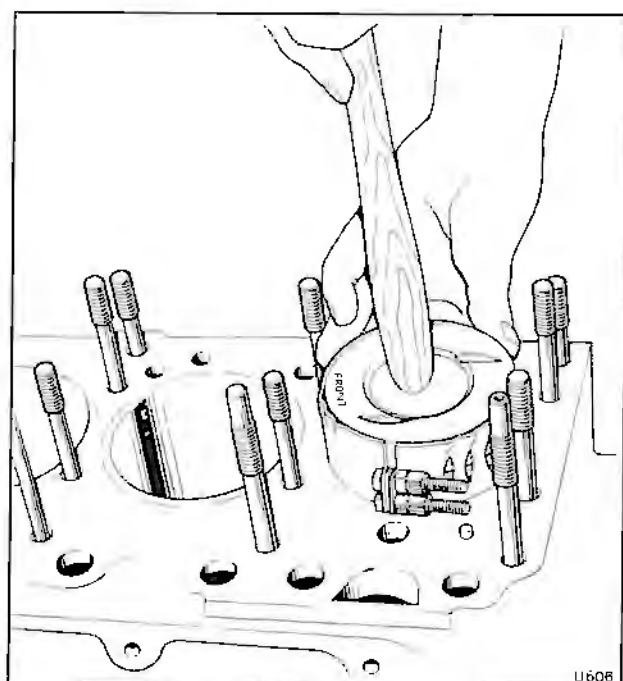

Fig. E6-6 Fitting a piston
6. Tighten the piston ring compressor, hold it against the cylinder liner and push the piston into the bore (see fig. E6-6).